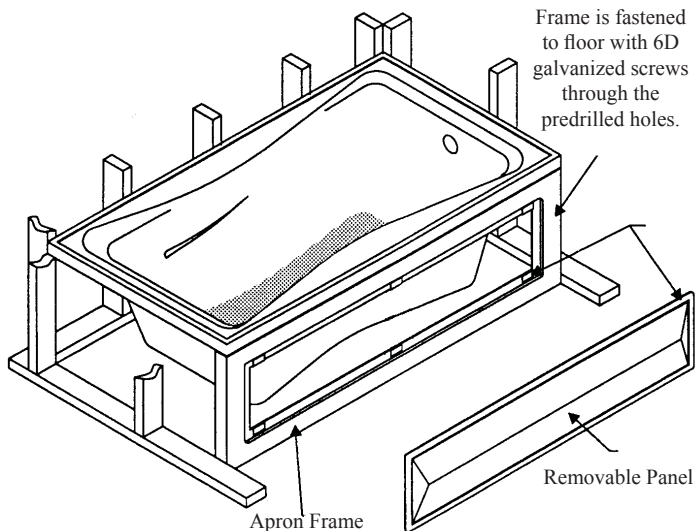

FIGURE 14
4.6 Position the removable access panel and attach the panel to the skirt frame by the metal straps or screws on the panel. *(See Figure 14)*
5.4 Position the removable access panel and attach the panel to the skirt frame by the metal straps or screws on the panel. *(See Figure 14)*